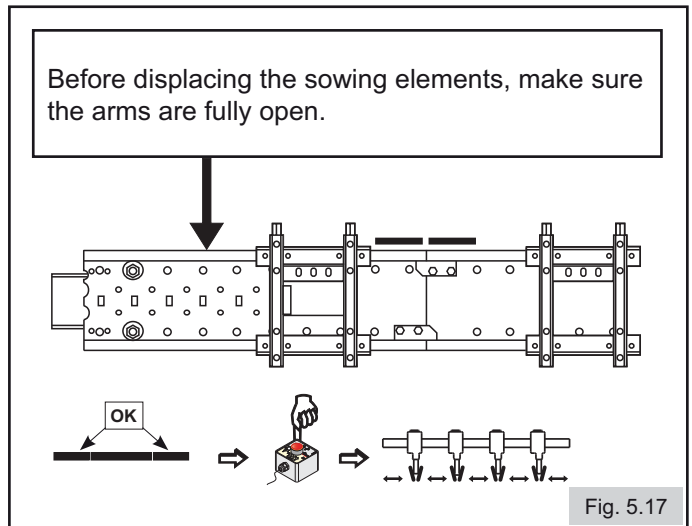

Fig. 5.17
- Take spring **M** from position **A** to position **B** (Fig.5.17)